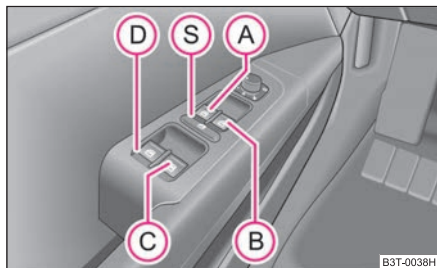
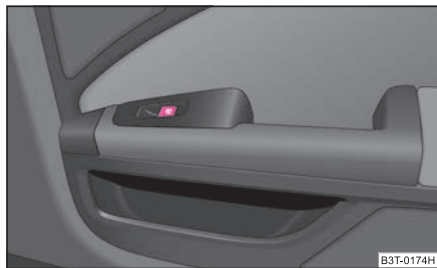

Fig. 36 Buttons on the driver's door
Fig. 37 Fitting position of the switch at the rear door
The switches for the individual windows are located in the armrest of the driver's door ⇒ fig. 36, front passenger door and in the rear doors ⇒ page 48, fig. 37
You can deactivate the switches for power windows at rear doors by pressing the safety pushbutton (S) ⇒ fig. 36. The buttons for power windows at rear doors are activated again by pressing the safety pushbutton (S) again.
- It is recommended to deactivate the electrically operated power windows in the rear doors (safety pushbutton) (S) ⇒ fig. 36 when children are being transported on the rear seats.